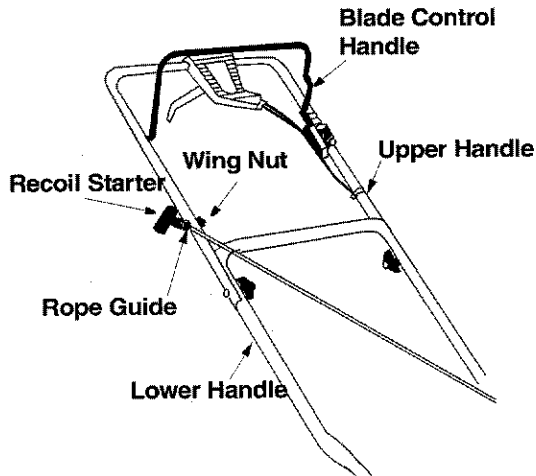

Figure 6
The rope guide is already attached to the right side of the upper handle of your mower. See Figure 6.
- With the spark plug wire disconnected and grounded, hold the blade control handle against the upper handle, and pull the starter rope up to the rope guide. See Figure 6.